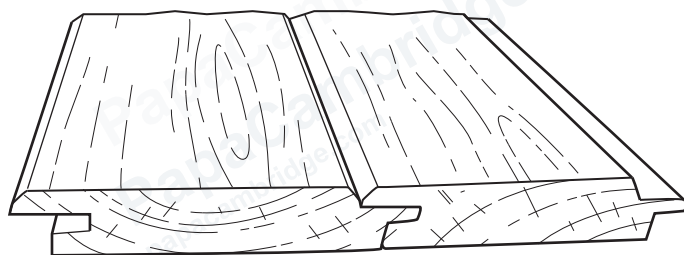

Figure 6.1
- 6 Figure 6.1 shows two floorboards joined together using a tongue and groove joint. The floorboards are made of softwood.